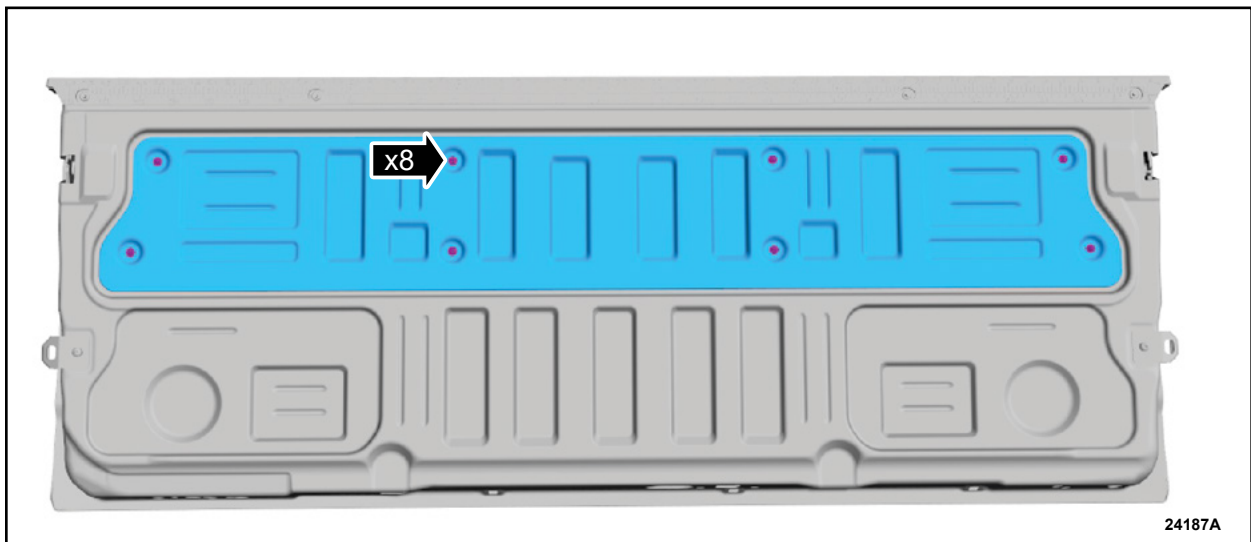

FIGURE 20
21. If not equipped with a tailgate liner, install the tailgate access panel and the screws. See Figure 20.